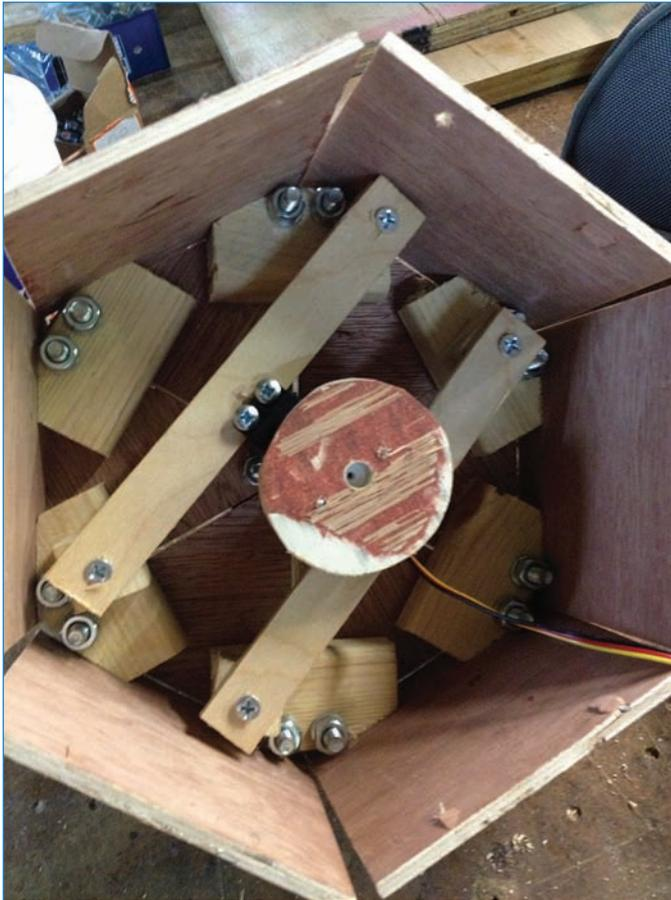

FIGURE 11.17 Looking into the enclosure from the bottom, you see the servo mounted in the center.
10. Install the motor in the top panel, using strips of wood cut from the 5mm plywood, with 1" spacer blocks cut from the pine. Use the #8 \times 1/2" screws to attach the servo to the strips, then use the #6 \times 2" screws to attach the strips to the support blocks. Really, the only considerations are that the strips of wood are high enough so that the servo doesn't bump into the top, and that the servo's hub is aligned with the dowel-hole in the bottom of the enclosure. You can see how it should look in Figure 11.17.